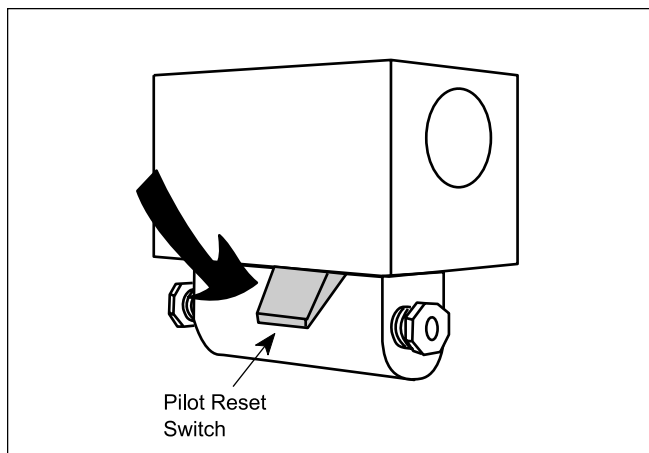

Figure 15. Pilot Safety Relay.
- h. For standing pilot system, press on pilot relay knob (see Figure 15), light pilot and keep relay knob depressed for one minute then release. Once the pilot is lit, the power is supplied through the aquastat to the main gas valve.